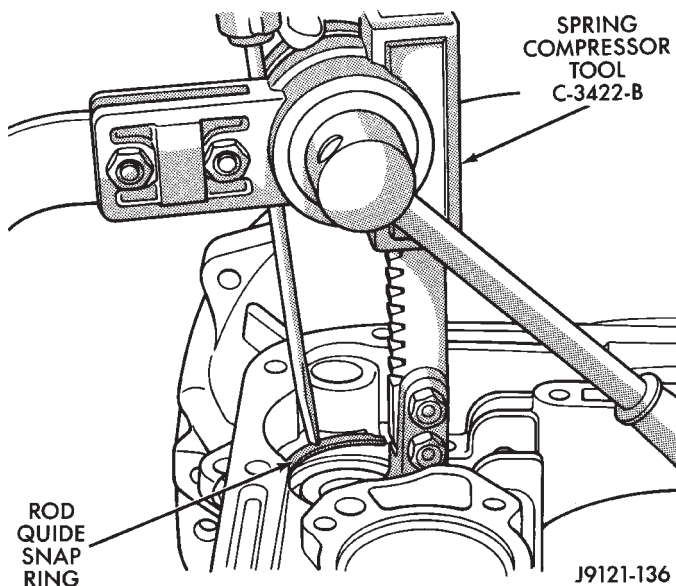

Fig. 106 Compressing Front/Rear Servo Springs
(3) Compress front/rear servo springs with Valve Spring Compressor C-3422-B and install each servo snap ring (Fig. 106).